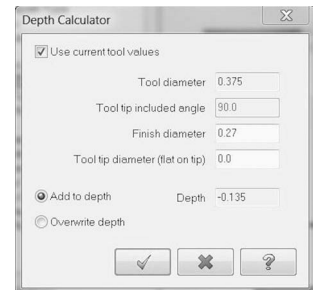

Figure 5-52 Drill Depth Calculator Dialog
- For Linking Parameters, set per Figure 5-51, and set the Depth values per Figure 5-52.